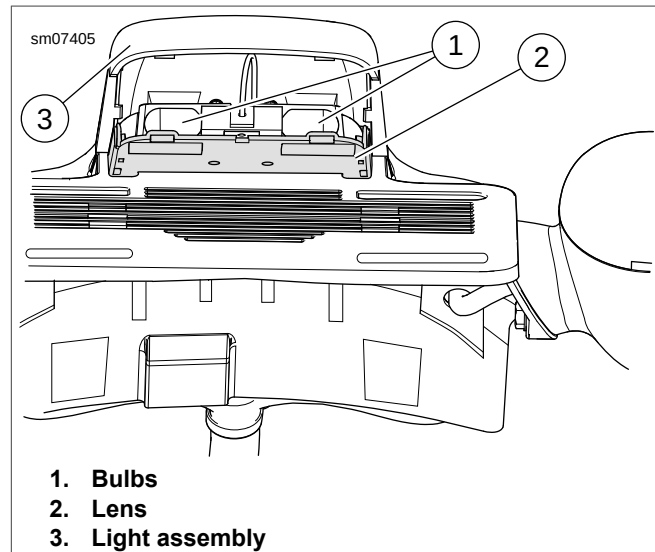

Figure 7-24. License Plate Bulbs: VRSCDX
1. See Figure 7-24. Pry lens (2) from tabs on light assembly (3).
2. Remove bulbs (1).